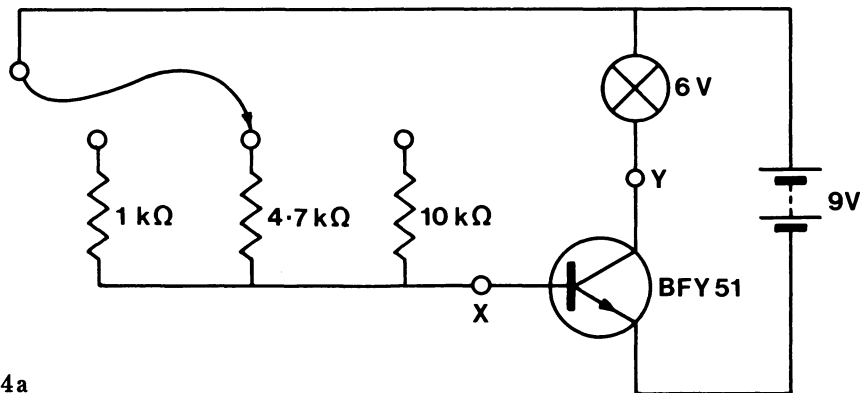
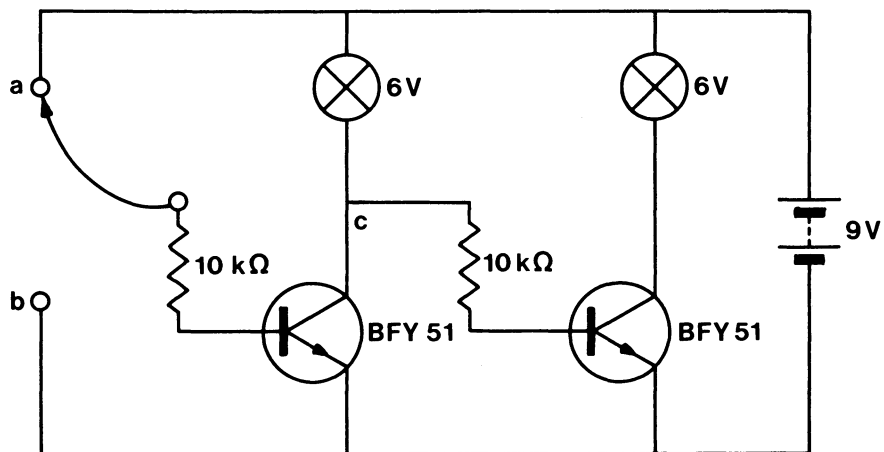
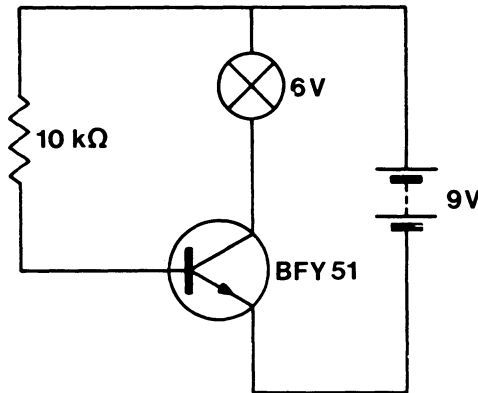

FIG. 1.24a
FIG. 1.24b
FIG. 1.25
1. Measure the currents in the circuit shown in Fig. 1.24a at points X and Y and investigate the effects of different values of base resistor on these.
2. Investigate the use of a saturated transistor as a switch by building the circuit shown in Fig. 1.24b.
1. The circuit shown in Fig. 1.25 is the same as that used in Circuit 5 for demonstrating the current amplification in a transistor. The effect of all the resistances in the transistor base circuit, i.e. the  $22\text{ k}\Omega$  variable resistor, the fixed  $10\text{ k}\Omega$  resistor and the  $6\text{ V}$  bulb has been represented by a single resistor. With the variable resistor set to a minimum this is roughly  $10\text{ k}\Omega$ . Remember that when the variable resistor was set to its minimum, the bulb lit with full brightness. To find out what happens when the base resistance is reduced even more, build the circuit shown in Fig. 1.24a.
The circuit in Fig. 1.24b demonstrates the transistor switch. Build this circuit and see what happens as the position of the crocodile clip is changed from point a to point b. Notice that this circuit is just like two transistor switches, as in Fig. 1.24a, connected with the output of the first going into the input of the second (the same battery is used for both transistors). You should find that when the first bulb is switched on, the second is off, and vice versa. What is happening in the circuit is that the crocodile clip allows current to flow into the first transistor, thus switching the first bulb on, only when it is connected to 9 V, i.e. point a. Similarly, the base current can only flow into the second transistor when 9 V is applied to its base resistor at point c. Since the bulb is either on or off, either 0.2 V or 9 V must be at point c at all times and the result is that the second transistor is off or on depending on which condition is present. Thus when bulb 1 is on, 0.2 V is at point c and bulb 2 is off, and when bulb 1 is off, 9 V is at point c and bulb 2 is on. When one bulb is on, therefore, the other is always off.